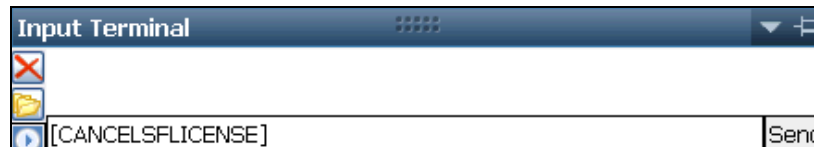

Figure 115: Input Terminal – Cancel StarFire License
1. Input the [CANCELSFLICENSE] command on the *Input Terminal* window to cancel the current StarFire license (see Figure 115).